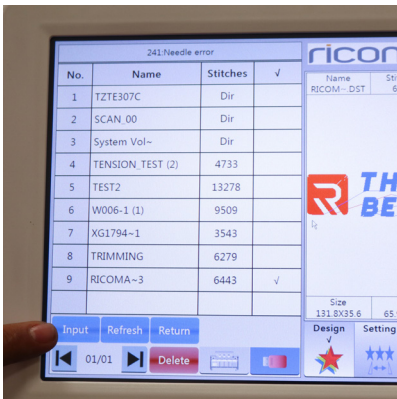

Figure 64
5. Select the file you wish to input, and select the "Input" key on the screen. **See Figure 64.**